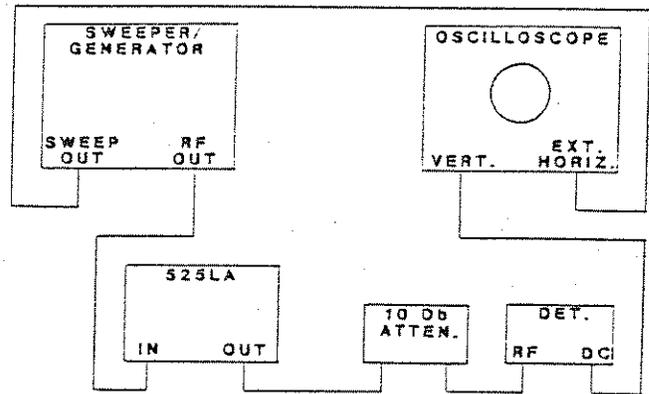

FIGURE 5-1 Gain and Gain Variation Test Set-Up
- a. Set up the test equipment as shown in Figure 5-1.
- h. Reconnect Model 525LA into the test set-up of Figure 5-1.